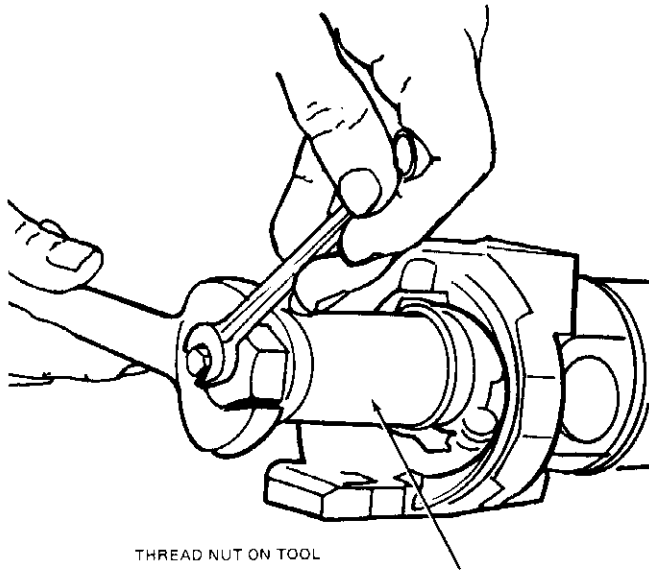

FIG. 16 Removing Ball from Stud
10. Thread nut on tool, Part No. J-23996-4, and draw the ball off the stud using wrench as shown in (Fig. 16).